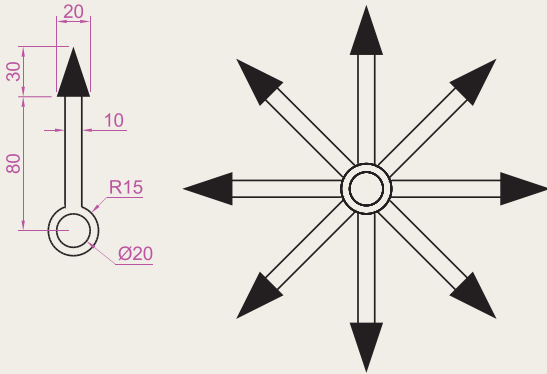

Fig. 5.51 Exercise 5
- Construct the arrow shown in Fig. 5.51. Array the arrow around the centre of its circle 8 times to produce the right-hand drawing of Fig. 5.51.